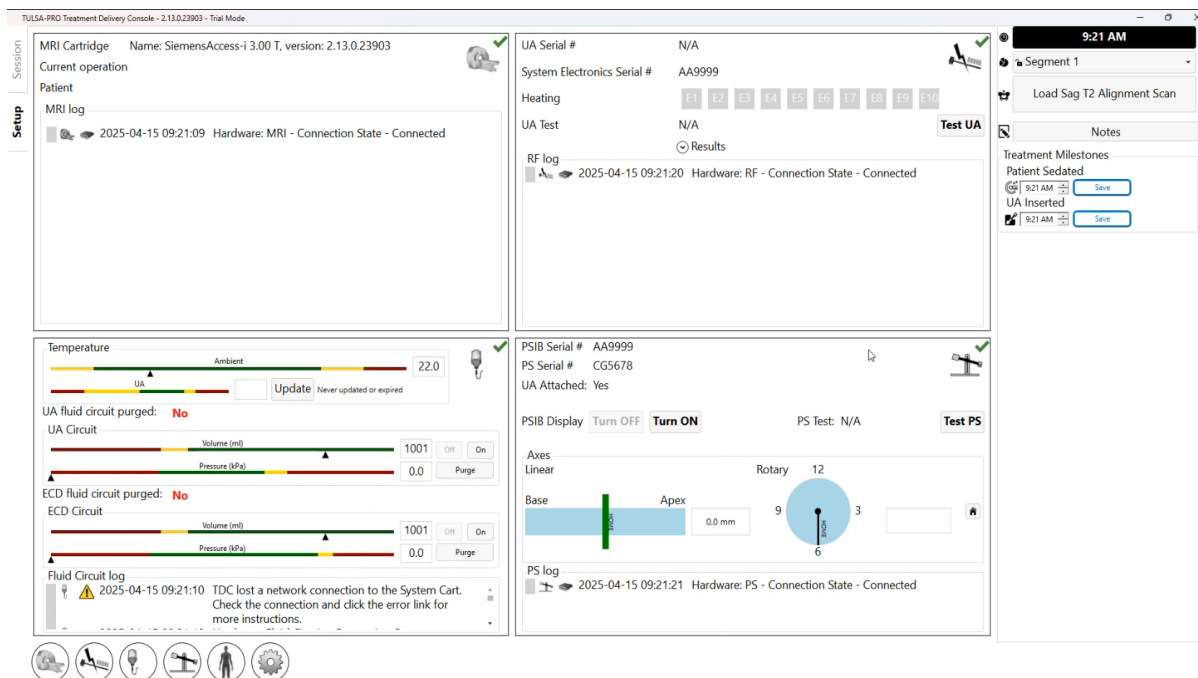

Figure 6: Setup workspace of the TDC software
- After selecting **New Session**, you will enter the **Setup** Workspace (*Figure 6*) where you can ensure all equipment is functioning properly before proceeding.